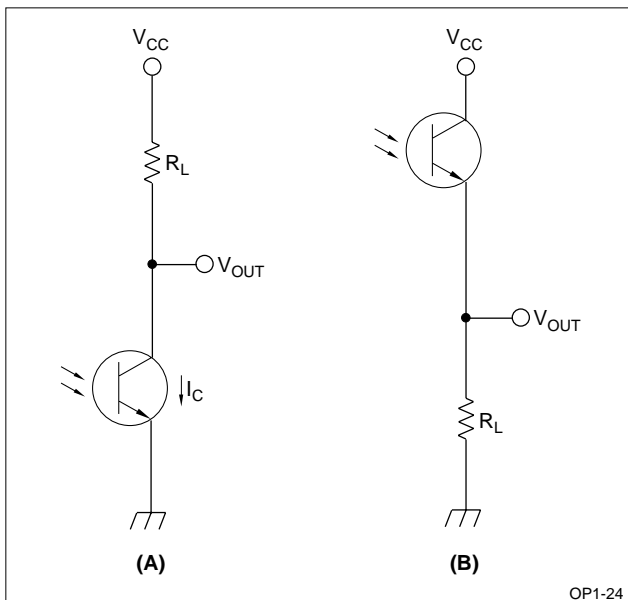

Figure 9. Fundamental Phototransistor Circuit (I)
Figures 9 and 10 show the fundamental phototransistor circuits. The circuit shown in Figure 9 (A) is a common-emitter amplifier. Light input at the base causes the output (V_{OUT}) to decrease from high to low. The circuit shown in Figure 9 (B) is a common-collector amplifier with an output (V_{OUT}) increasing from low to high in response to light input. For the circuits in Figure 9 to operate in the switching mode, the load resistor (R_L) should be set in relation with the collector current (I_C) as $V_{CC} < R_L \times I_C$.